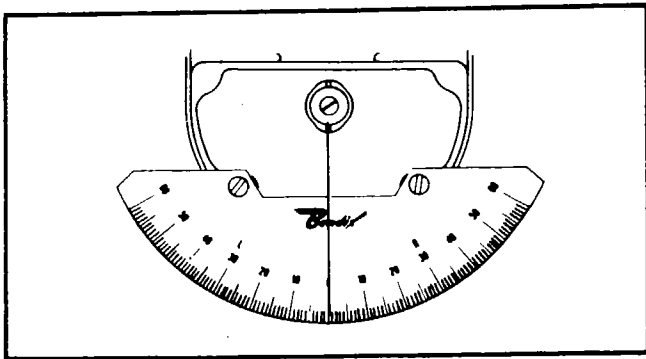

Figure 11-11. Template and Pointer Attached
d. Attach timing template to breaker compartment as shown in figure 11-11, using 8-32 screws 1/4 inch long.